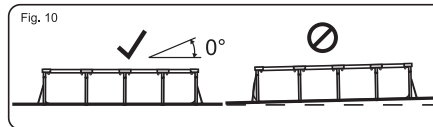

Fig. 10
- Turn water off. Check that the water is not collecting on any side to ensure the pool is level. If pool is not level, drain water and re-level ground by digging out (See Fig. 10). Never attempt to move the pool with water in it, serious personal injury or damage to the pool may result.